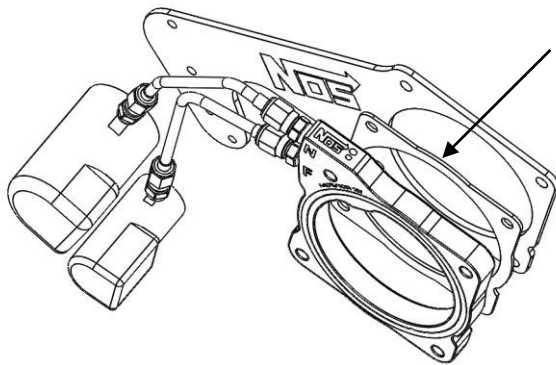

Figure 4
6. Assemble the nitrous and fuel supply lines onto the appropriate fittings with the desired jets installed as shown in **Figures 4 & 5**. (See Chapter 3, table 2 for suggested jetting). Make sure the O-ring side or the throttle body side is facing outward and be sure to install the supplied gasket between the solenoid bracket and the nitrous plate.
5. Attach the solenoids to the bracket as shown in **Figures 4 & 5**.